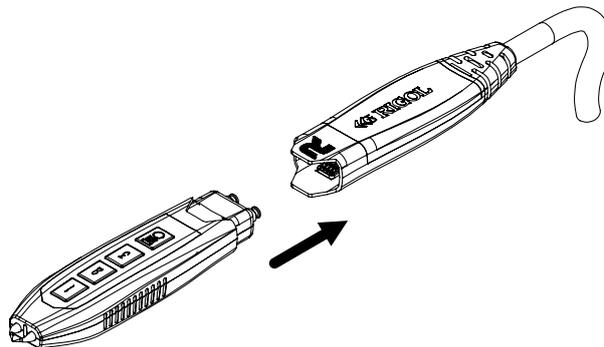

Figure 4.5 To Connect the Probe Head to the PA of the Active Probe
1. Connect the probe head to the preamp of the active probe, as shown in *Figure 4.5*.